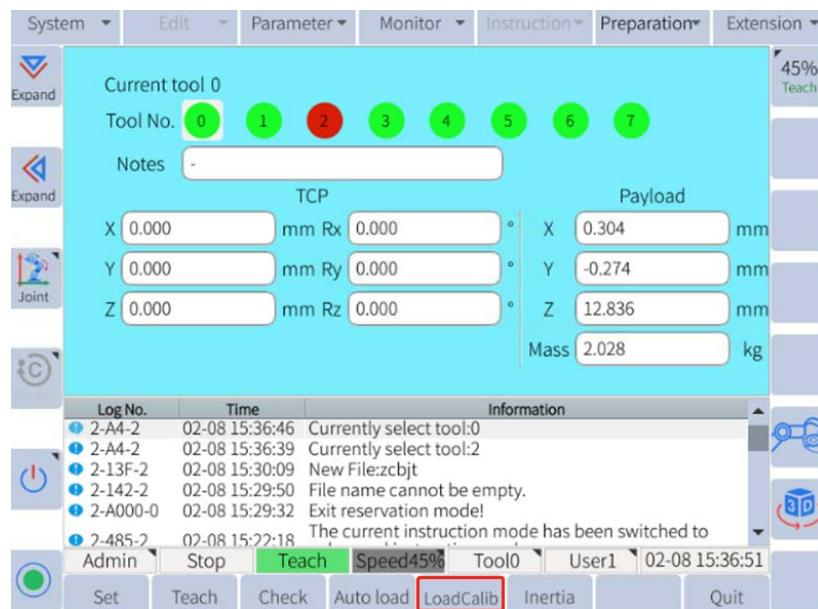

Figure 6-41: Calculations
5. Click **Calculate** in the bottom menu bar to work out the payload quality and the centroid position. Users can check the calculations by clicking the “Previous step”, as shown in Figure 6-41.
6. Click **Set** in the bottom menu bar and record the current payload quality and the centroid position onto the corresponding tool, as shown in Figure 6-41.